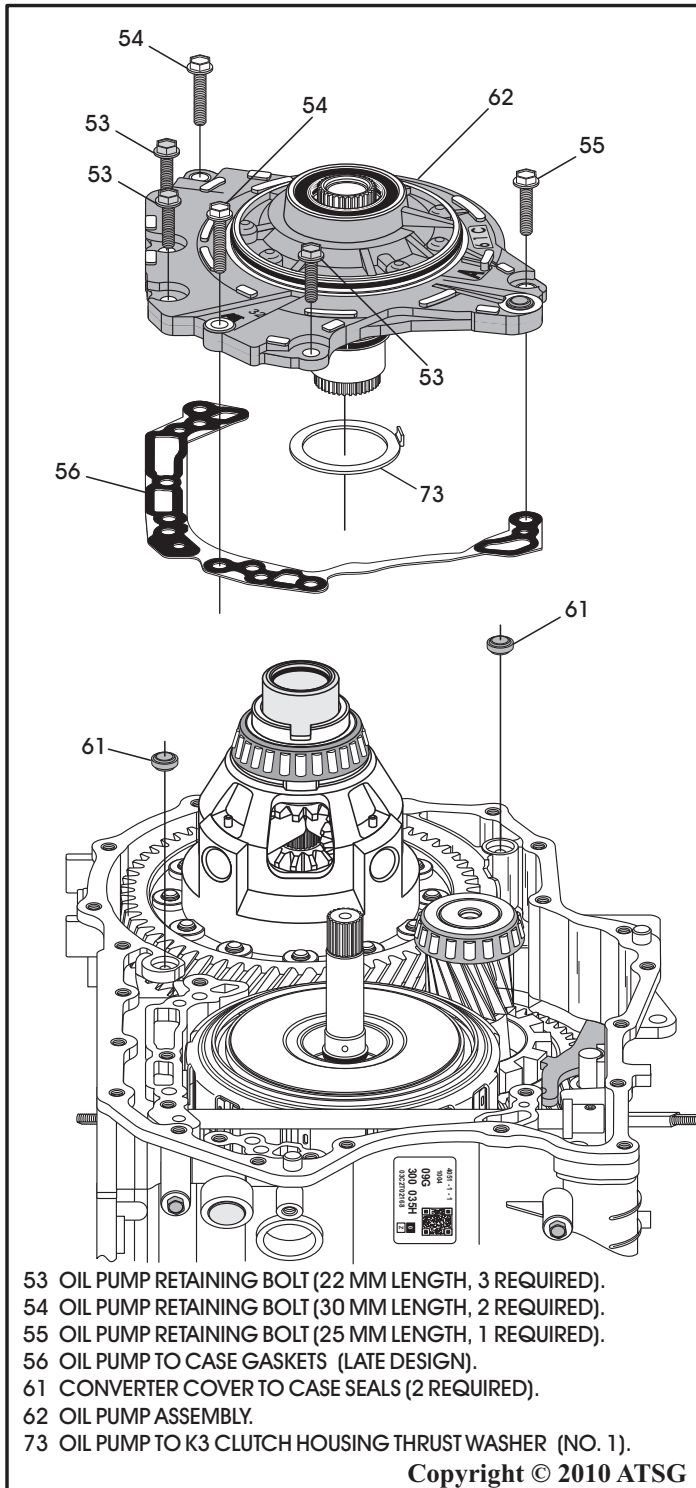

Figure 190
56. Install two new case to converter cover seals in the case pockets, as shown in Figure 190, and retain with small amount of Trans-Jel®.
57. Install the oil pump and gasket assembly, as shown in Figure 190.
58. Install the 6 oil pump retaining bolts, as shown in Figure 190.